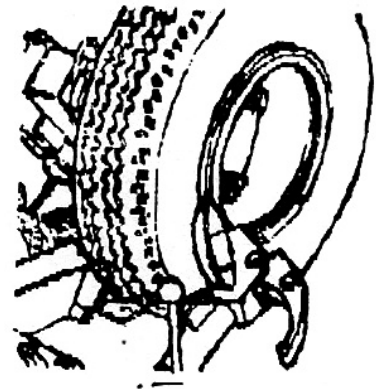

Fig2.16
- 5) Make the plate face the tire, press the blocking circle and the opening mouth press bar. Turn the tire and the fixing is over (Fig2.16).